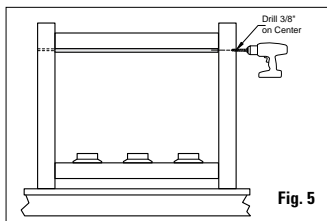

Fig. 5
Step 5: Attach top and bottom rails. Attach top and bottom rails to deck posts. The wireway channel on the top rail should be facing down when installed. Drill 3/8" hole in the deck posts in line with the bottom edge of the top deck rail for wire. (Fig. 5) Note: When installing lighted glass balusters on the Deckorators aluminum railing system, insert a plastic grommet (sold separately) into each drilled hole in the aluminum post sleeves.